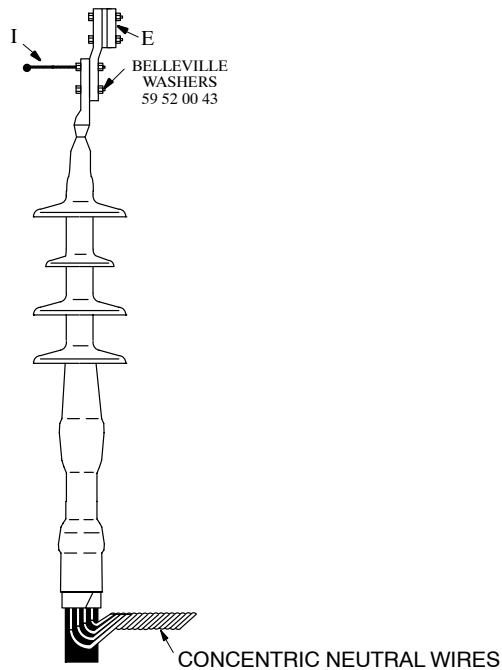

FIGURE 6
9. For outdoor installations, attach a bronze four bolt lug to the compression lug or shearhead bolt lug using a ground stud in the upper hole and a 1/2" x 2" bolt in the lower hole. See Figure 6.